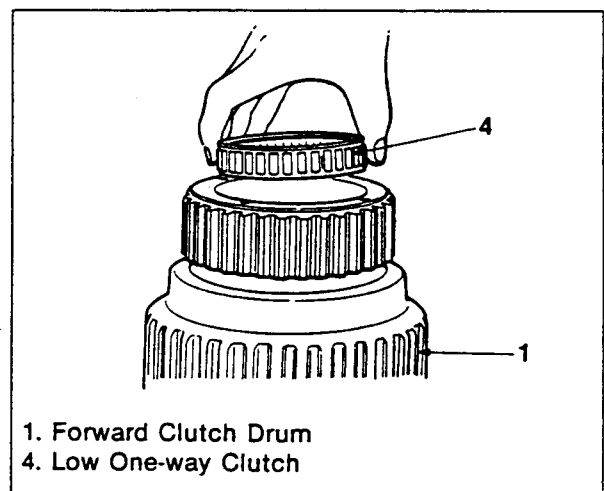

Figure 193. Needle Bearing (Large), Snap Ring and Low One-way Clutch Installation
1. Attach the large needle bearing, the snap ring and the low one-way clutch in the designated positions (figure 193).